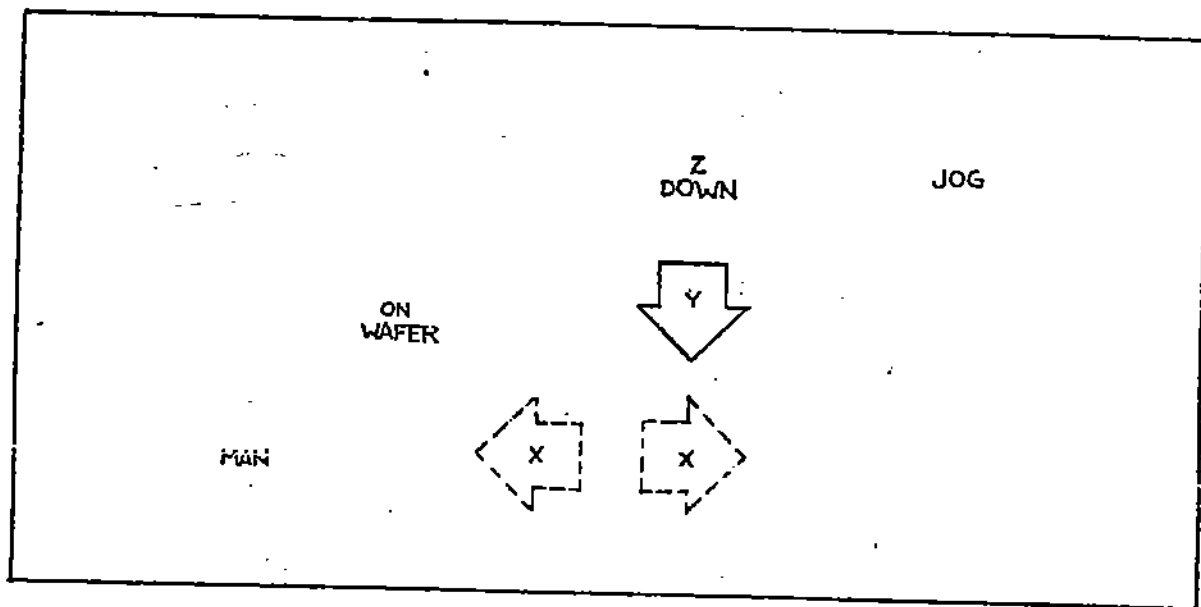

Figure 2-8. Display Panel (Stop/Load)
- d. Verify Status Display Panel agrees with Figure 2-8.